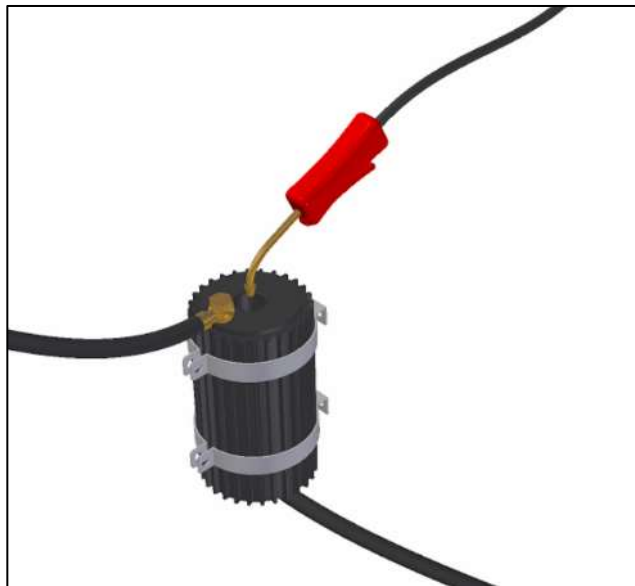

Figure 57
12. Remove (1) one fitting from the Supercharger Oil Cooler and prefill the Cooler with Traction Fluid until full. Reinstall the fitting and line after filling.
13. Remove the red dipstick/cap on the Z1 Supercharger Oil Reservoir in the passenger fender well. Carefully apply pressurized air to the Oil Filler Hole of the Oil Reservoir. **DO NOT** pressurize the system to more than one bar or 15psi. Use a rag or a sponge between the air-gun nozzle and the canister to fill the gaps. The nozzle does not need to perfectly seal on the reservoir. Allowing some air to escape is okay and will help prevent more than 15psi from being applied. *Figure 57.*